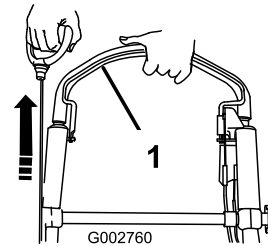

Figure 24
2. Hold the blade-control bar against the handle and pull the recoil starter (Figure 24).